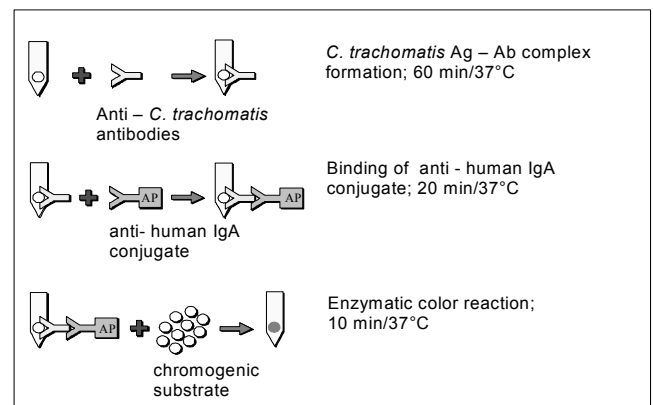

Figure 1. Principle of the Test
At the outset of the test, serum or plasma specimens are prediluted 1:4 and added to the diluent in the wells of row A of the Developing Plate. The Card is then inserted in the wells of row A. Anti-*C. trachomatis* antibodies, if present in the specimens, will specifically bind to the *C. trachomatis* antigens on the lower spot on each tooth of the Card (Figure 1). Simultaneously, immunoglobulins present in the specimens will be captured by the anti-human immunoglobulin on the upper spot (Internal Control). Unbound components are washed away in row B. In row C, the anti-*C. trachomatis* IgA captured on the teeth will react with alkaline-phosphatase (AP)-labeled anti-human IgA. In the next two rows, unbound components are removed by washing. In row F, the bound alkaline phosphatase will react with chromogenic components. The results are visible as gray-blue spots on the surface of the teeth of the Card.